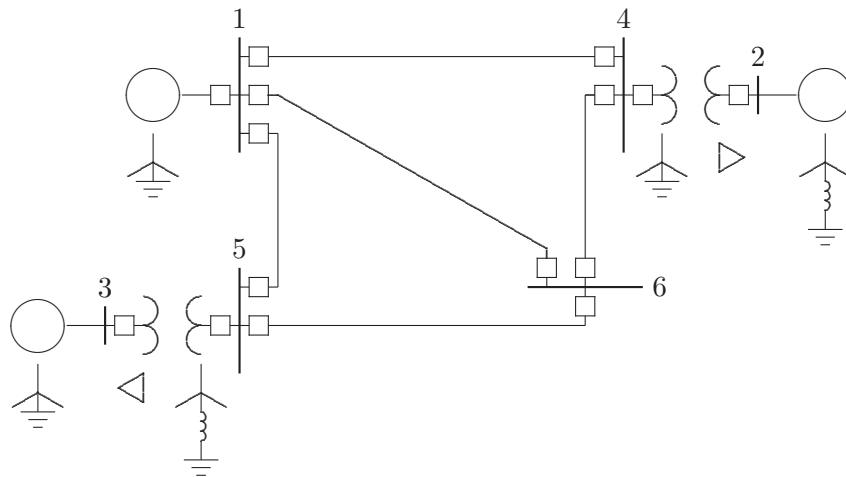

FIGURE 89 One-line diagram for Problem 10.21.
10.21. The six-bus power system network of an electric utility company is shown in Figure 89. The positive- and zero-sequence reactances of the lines and transformers in per unit on a 100-MVA base is tabulated below. The transformer connections are shown in Figure 89. The Δ -Y transformer between buses 3 and 5 is grounded through a reactor of reactance 0.10 per unit. The generator's positive- and zero-sequence reactances including the reactance of grounding neutrals on a 100-MVA base is tabulated below.